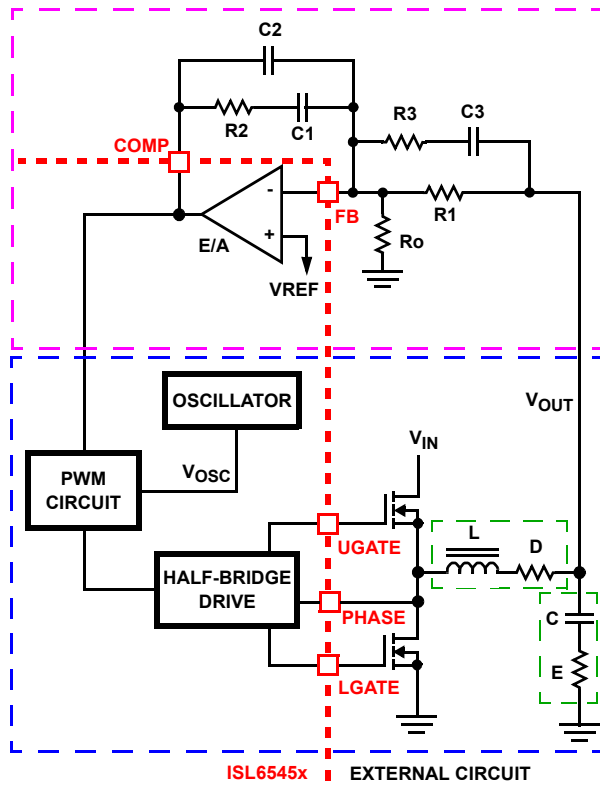

FIGURE 9. VOLTAGE-MODE BUCK CONVERTER COMPENSATION DESIGN
This section highlights the design consideration for a voltage-mode controller requiring external compensation. To address a broad range of applications, a type-3 feedback network is recommended, as shown in the top part of Figure 9.
Figure 9 also highlights the voltage-mode control loop for a synchronous-rectified buck converter, applicable to the ISL6545x circuit. The output voltage (V_{OUT}) is regulated to the reference voltage, V_{REF} . The error amplifier output (COMP pin voltage) is compared with the oscillator (OSC) modified sawtooth wave to provide a pulse-width modulated wave with an amplitude of V_{IN} at the PHASE node. The PWM wave is smoothed by the output filter (L and C). The output filter capacitor bank's equivalent series resistance is represented by the series resistor E .
The compensation network consists of the error amplifier (internal to the ISL6545x) and the external R1-R3, C1-C3 components. The goal of the compensation network is to provide a closed loop transfer function with high 0dB crossing frequency (F_0 ; typically 0.1 to 0.3 of F_{SW}) and adequate phase margin (better than 45°). Phase margin is the difference between the closed loop phase at F_{0dB} and 180° . The equations that follow relate the compensation network's poles, zeros and gain to the components (R1, R2, R3, C1, C2, and C3) in Figure 9. Use the following guidelines for locating the poles and zeros of the compensation network:
1. Select a value for R1 (1k Ω to 5k Ω , typically). Calculate value for R2 for desired converter bandwidth (F_0). If setting the output voltage via an offset resistor connected to the FB pin, R_o in Figure 9, the design procedure can be followed as presented.